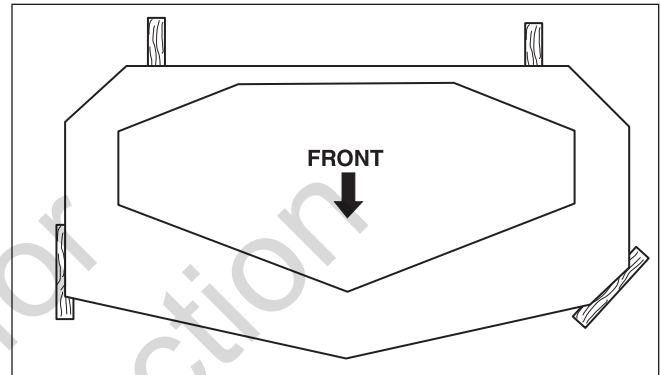

Figure 43. 2 x 4 Locations
6. Block up the mower deck until all hanger chains are slack. Refer to Figure 43.
3. Place 2 x 4 blocks under each corner of the mower deck with the 3-1/2" sides being vertical. See Figure 43.